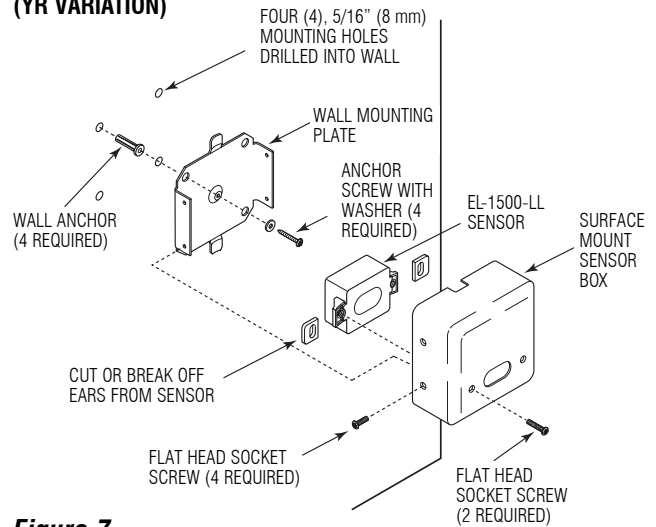

Figure 7
Install Wall Mounting Plate using Anchor Screws and Washers provided as illustrated in Figure 7.
Cut or break off the ears from the Sensor as illustrated in Figure 7. Cut just past the oval mounting holes. Place Sensor into Sensor Box and secure with Flat Head Socket Screws provided. Attach Sensor Box to Wall Mounting Plate and secure with four (4) Screws provided.